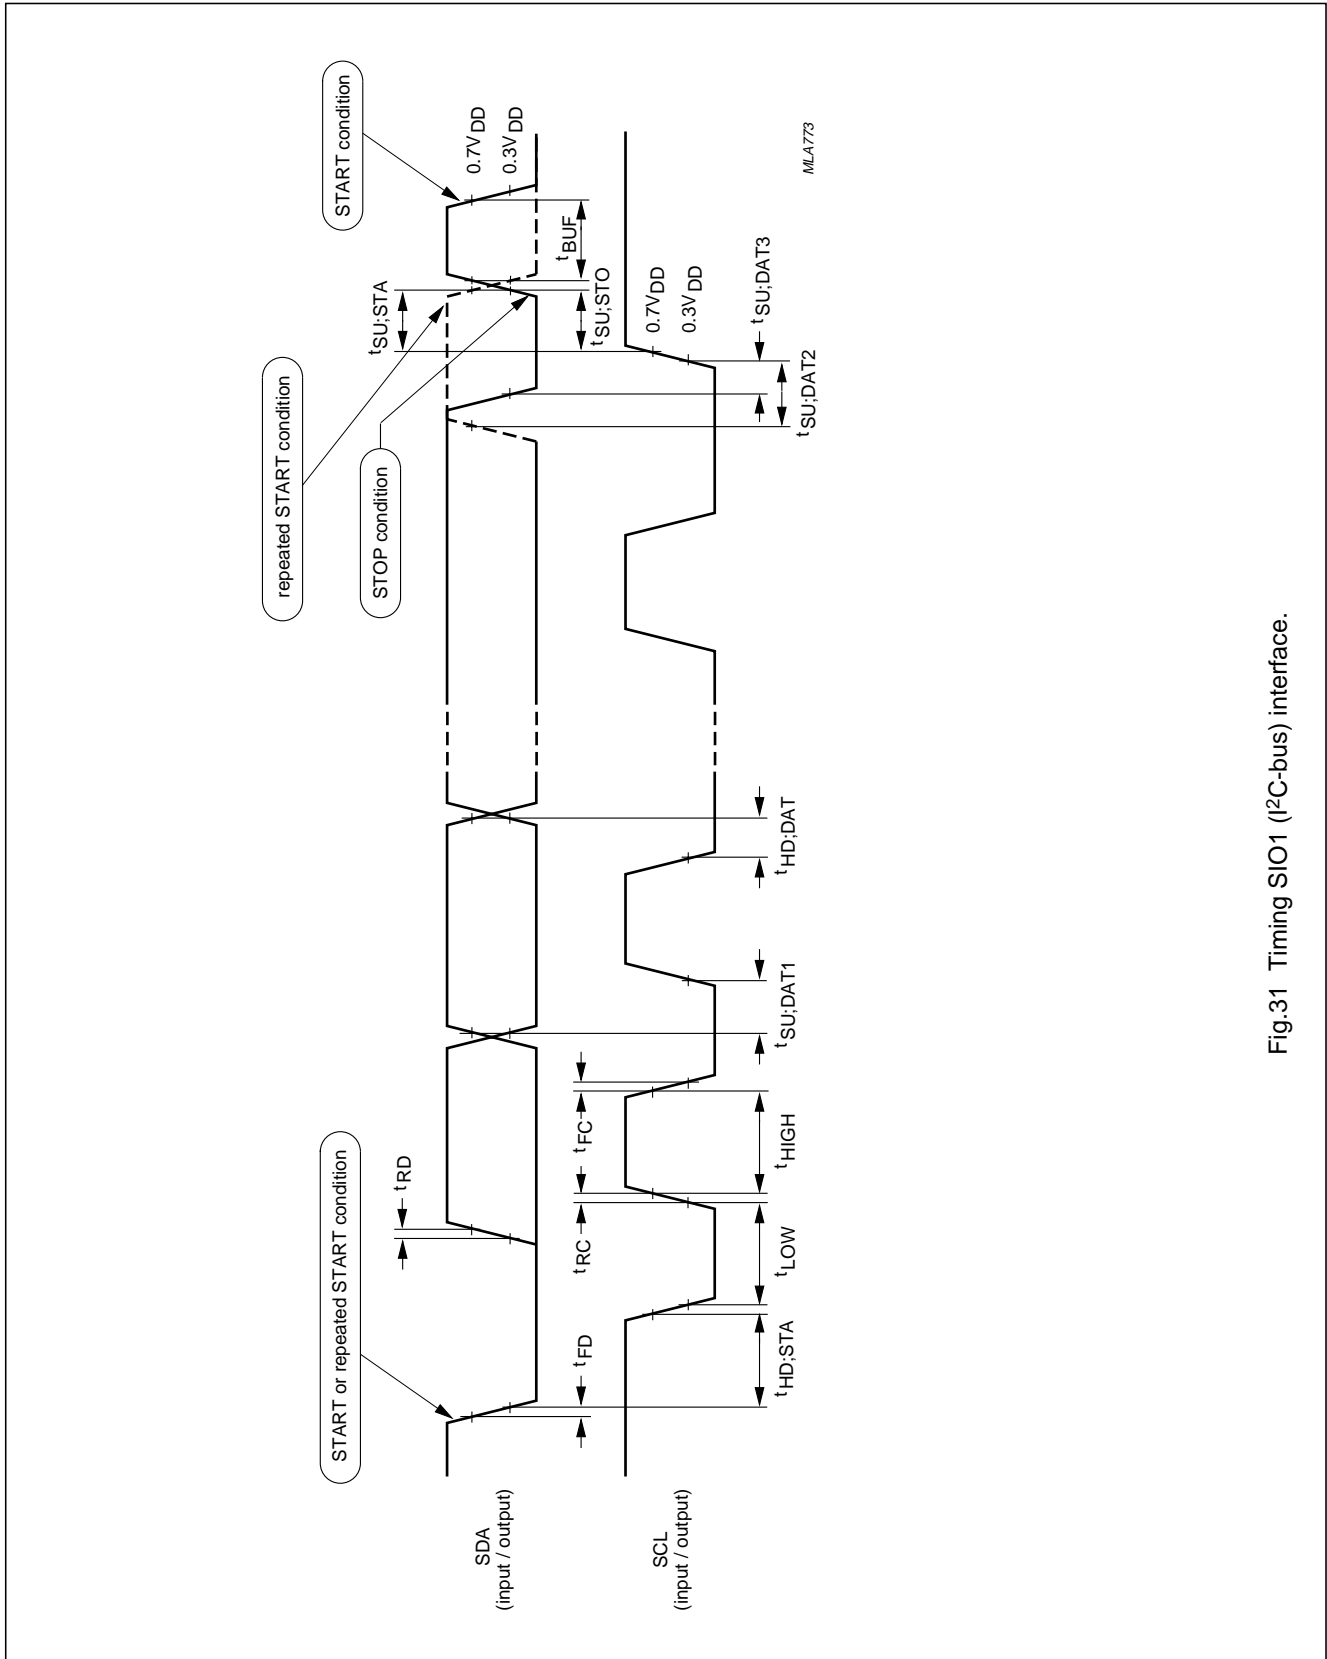

Fig.31 Timing SIO1 (I2C-bus) interface.
**Table 82** I2C-bus interface timingAll values referred to  $V_{IH(min)}$  and  $V_{IL(max)}$  levels; see Fig.31.